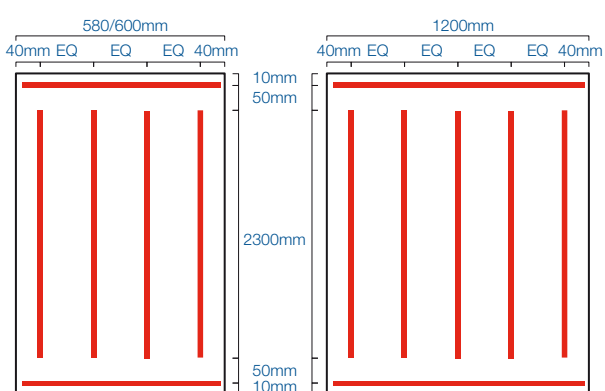

Fig B4 Application of BB Complete adhesive
Use 1 x 290ml cartridge per 2420x1200mm panel or 1 every 2 x 580mm or 600mm panels. See fig B4.
5. Apply beads of BB Complete adhesive as shown in fig B4.
5. Apply beads of BB Complete adhesive as shown in fig B1 and fig B4.